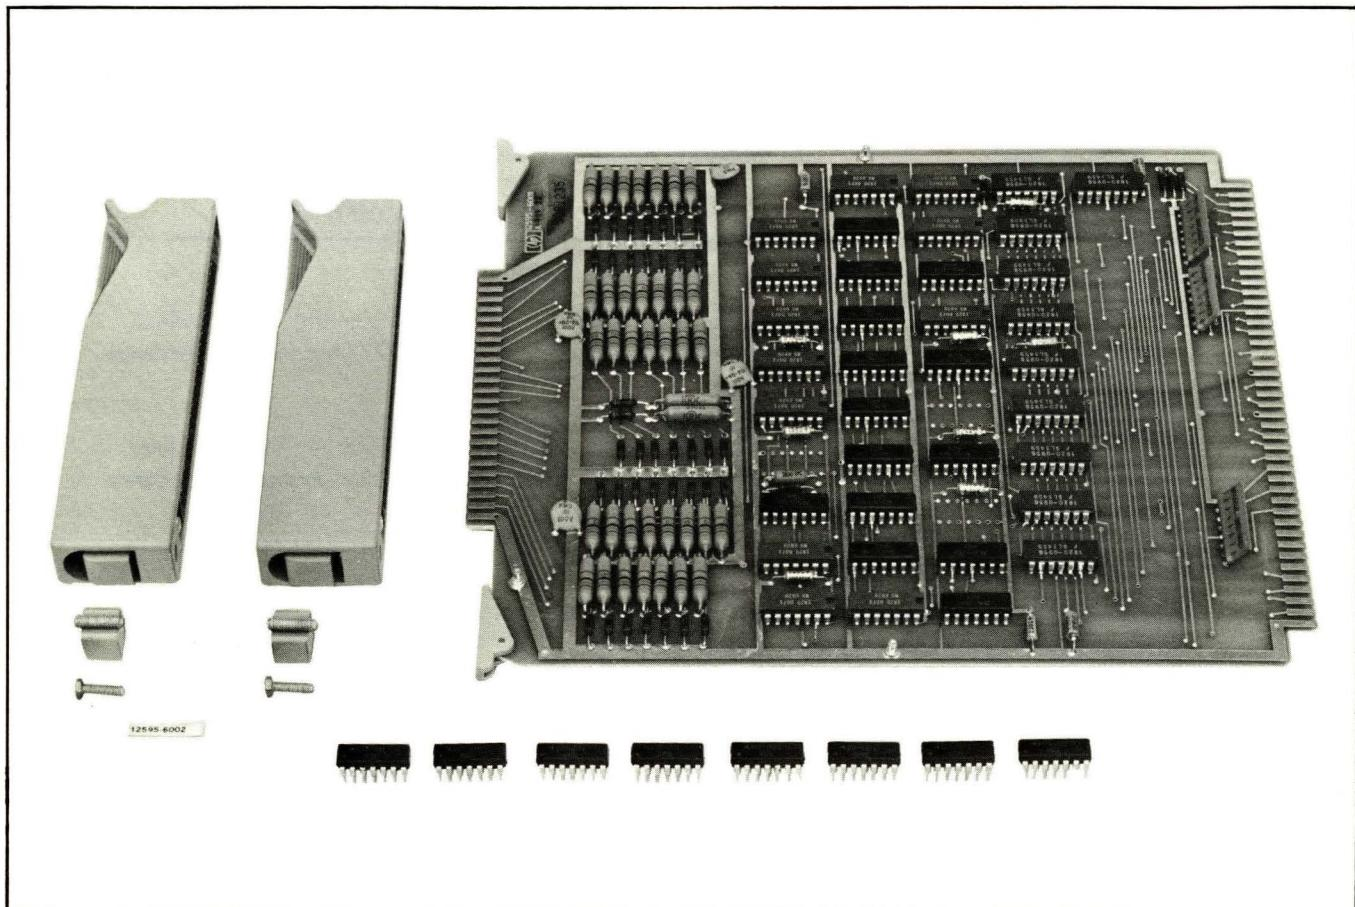

Figure 1-1. HP 12595A Multiplexed Input/Output Accessory Kit
1-2. This manual provides general information, installation instructions, theory of operation, maintenance, and replaceable parts information for the Hewlett-Packard (HP) 12595A Multiplexed Input/Output Accessory Kit for HP 2114 series computers (see figure 1-1).